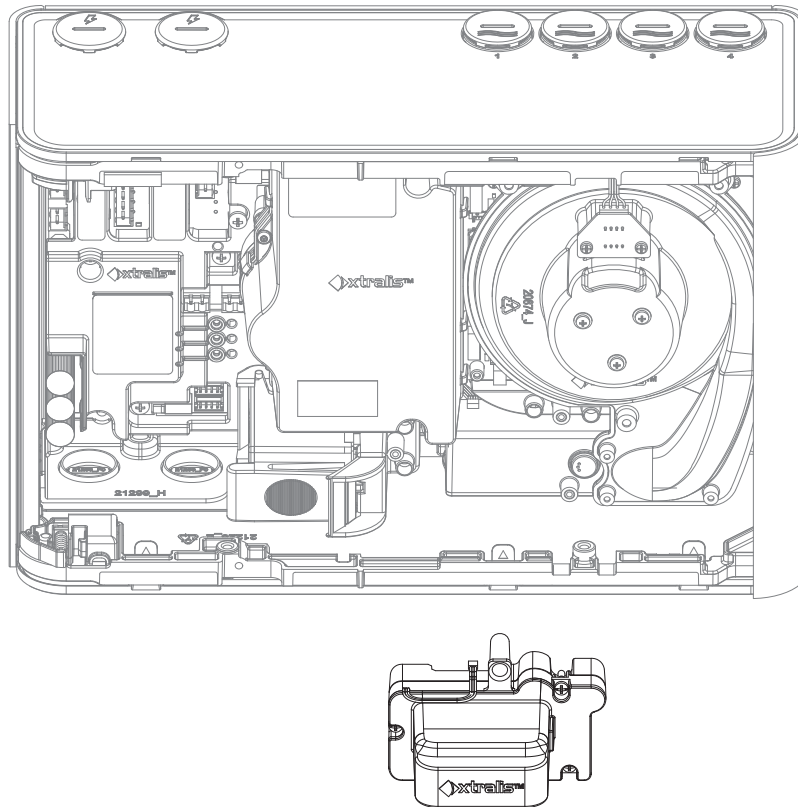

Figure 7-19: Remove Sampling Module
6. Remove the Sampling Module. Be sure to include the rubber seal on the base of the Sampling Module (Figure 7-19).